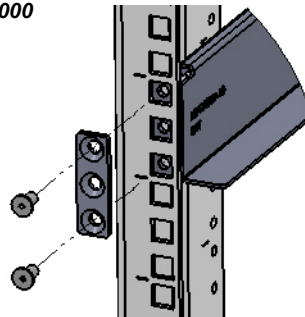

Figure 1-3 Detail of Front Rack Spacer Assembly for the RMX
(item no. 4) as shown in Figure 1-3.
- On the RMX 1500/4000 the center hole on the *Rack Spacer* must be left clear as it is required for fixing the RMX to the rack post. See Figure 1-3.
- On the RMX 2000 the top hole on the *Rack Spacer* must be left clear as it is required for fixing the RMX to the rack post. See Figure 1-3.